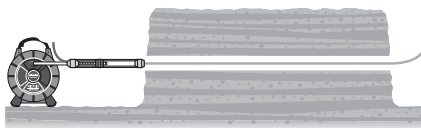

Figure 15 – Utility Line Pulled Through Bore
9. Using the rope, pull the CROSSCHEK Inspection System back through the bore with slow, steady force (*Figure 15*). Do not use excessive force, this could damage the equipment. If desired, the inspection can be repeated as the unit is pulled back. This may allow better inspection results.